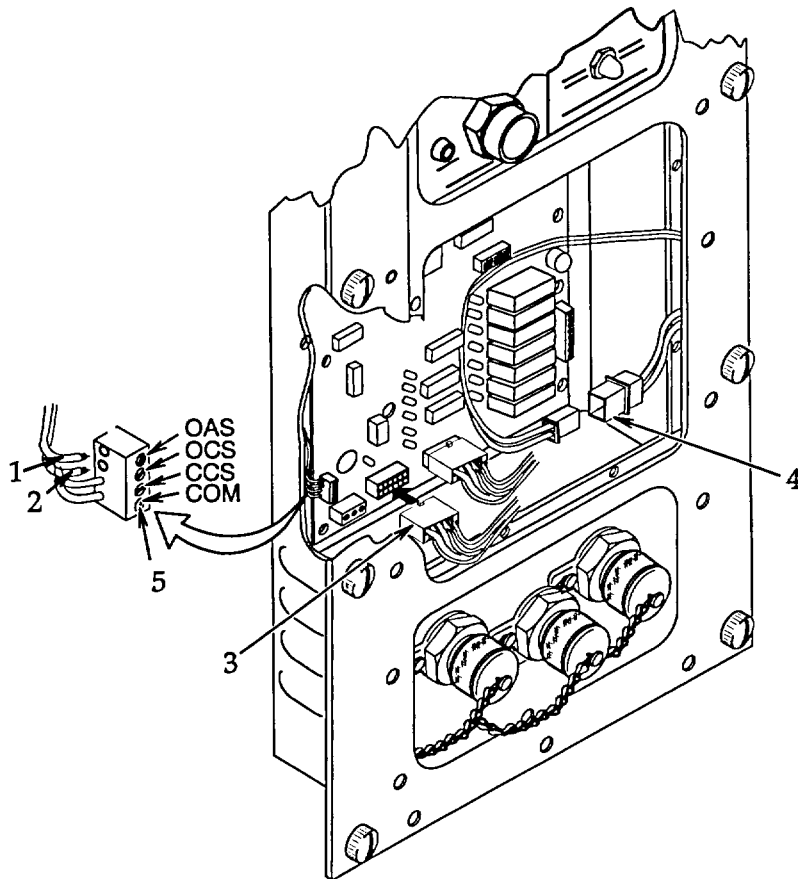

Figure 4-10. Thermistor Temperature Sensor Test Points.
4.11 THERMISTOR TEMPERATURE SENSORS TESTING. See figure 4-10. The thermistor temperature sensors provide the primary input signals for the pc board. If any one of the sensors is defective or is not getting a signal to the pc board, it will cause erratic and unpredictable operation of the FDECU. To ensure accurate diagnostic troubleshooting of the pc board and system, it will be necessary to confirm that the thermistors are functioning properly. The following procedures will test the thermistors at the pc board. This will test the interconnecting wiring as well as the thermistor itself. If an open circuit failure is indicated however, it will be necessary to disconnect the thermistor from the wiring and test it directly to determine if the thermistor or the wiring is defective.